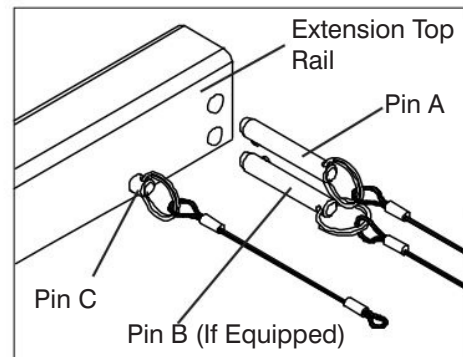

Figure 3-11b. Extension Top Rail Pins
8. Remove left and right side pins A and B (if equipped). (Refer to Figure 3-11b):